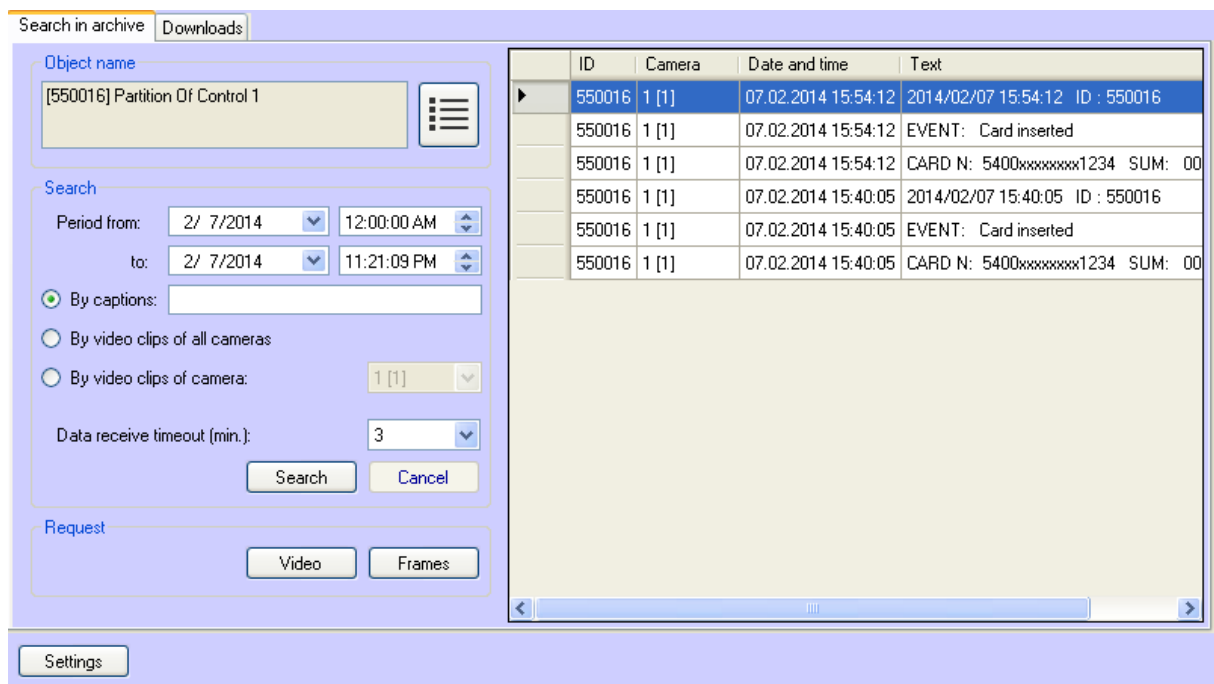

Fig. 4.2—2 Archive search result
6. If the search completes successfully, the search result is displayed as a list of lines (Fig. 4.2—2). The number of lines in that list is limited to 500.